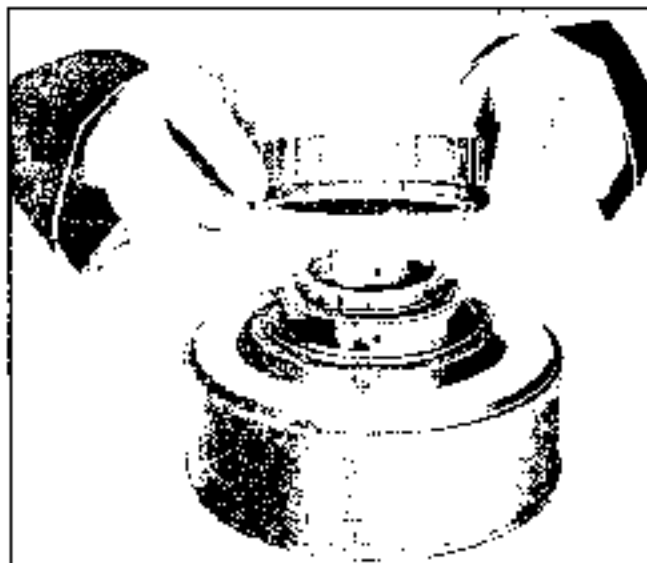

Fig. 7E-103 Installing Intermediate Spring to Direct Clutch
14. Install spring bushing over spring, cup side down (Fig. 7E-104).